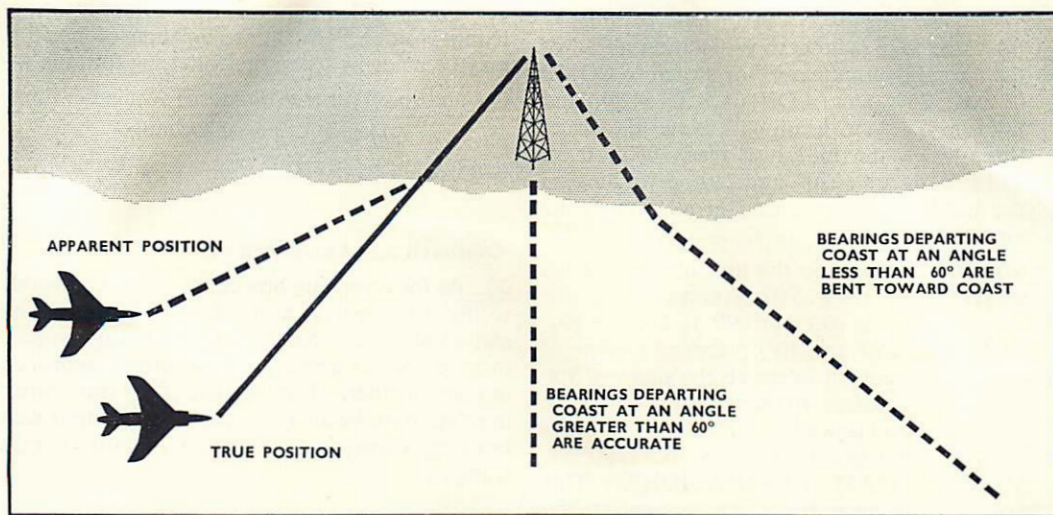

Fig. 10. Coastline Effect.
35. Coastline effect is caused by the passage of radio waves from a medium of one conductivity to that of another conductivity. The land is a relatively poor conductor and the water a good one. Therefore when a radio beam leaves the coast at an acute angle, there is an appreciable bending towards the land because the poor conductivity of the land holds up a portion of the beam while that part of the beam which has already reached the water is proceeding at a greater speed because of the improved conductivity of the new medium. As can be seen from Fig. 10, the accuracy of bearings cutting the coast at  $90^\circ$  is unaffected by coastline effect.